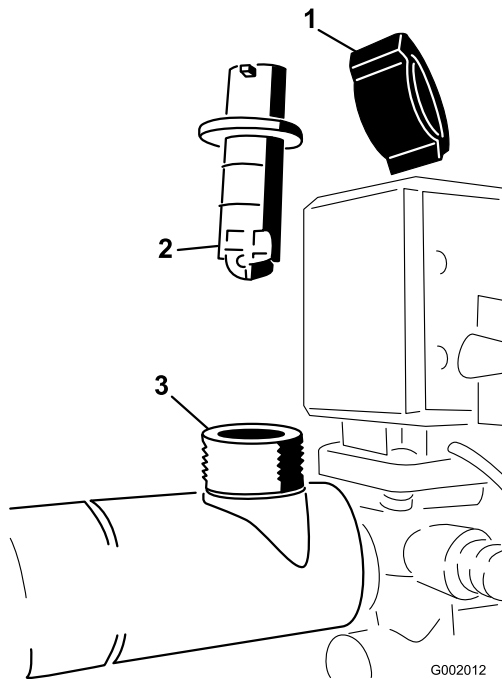

Figure 72
2. Remove the retaining cap from the flowmeter body (Figure 72).